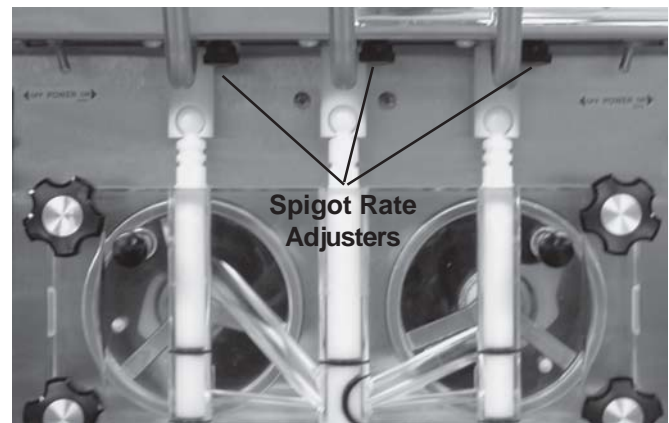

Figure 22. Dispensing Product
- G. The refrigeration is automatically actuated when the spigot is opened. For normal dispensing, move the spigot handle fully open. This position provides excellent control over the product and aids in making desired shaped portions. Spigot Rate Adjusters are located under the Header Panel, to the immediate right of each Spigot Handle. Turning the Spigot Rate Adjuster clockwise will increase the dispense rate (see Figure 22).